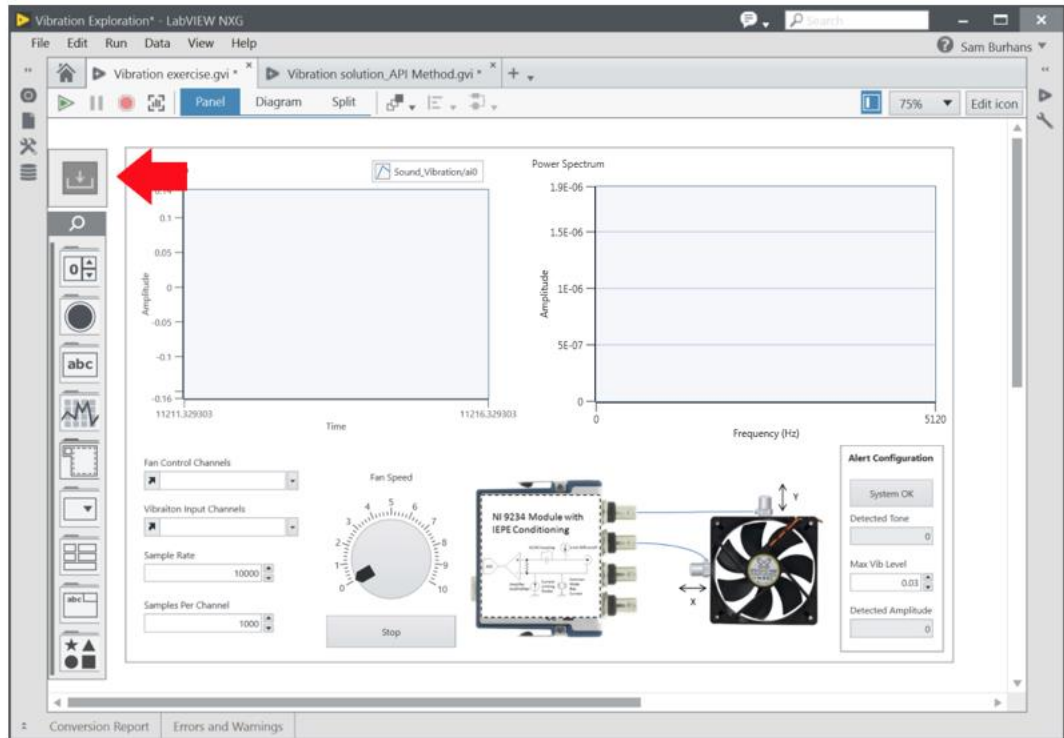

Figure 7-30 New front panel elements are stored in the unplaced items menu of the palette.
- The controls we created on the block diagram are not currently visible on the front panel. New controls and indicators are stored in the **unplaced items** (arrow in Figure 7-30) bin or the palette for easy access. Place the controls from the unplaced items on the front panel as shown in Figure 7-30, you may also need to re-arrange existing elements.